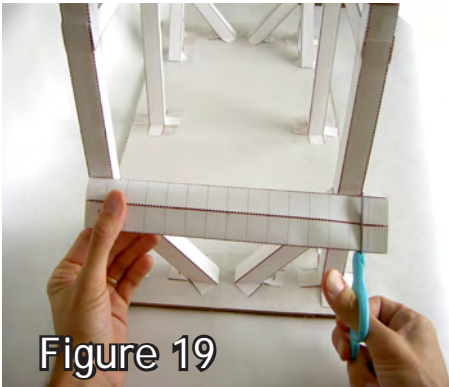

Figure 19
2. Hold the beam next to the two columns that you want to connect. (fig. 19) Cut the beam as shown in figure 19 so that its length matches the distance between the far edges of the columns.